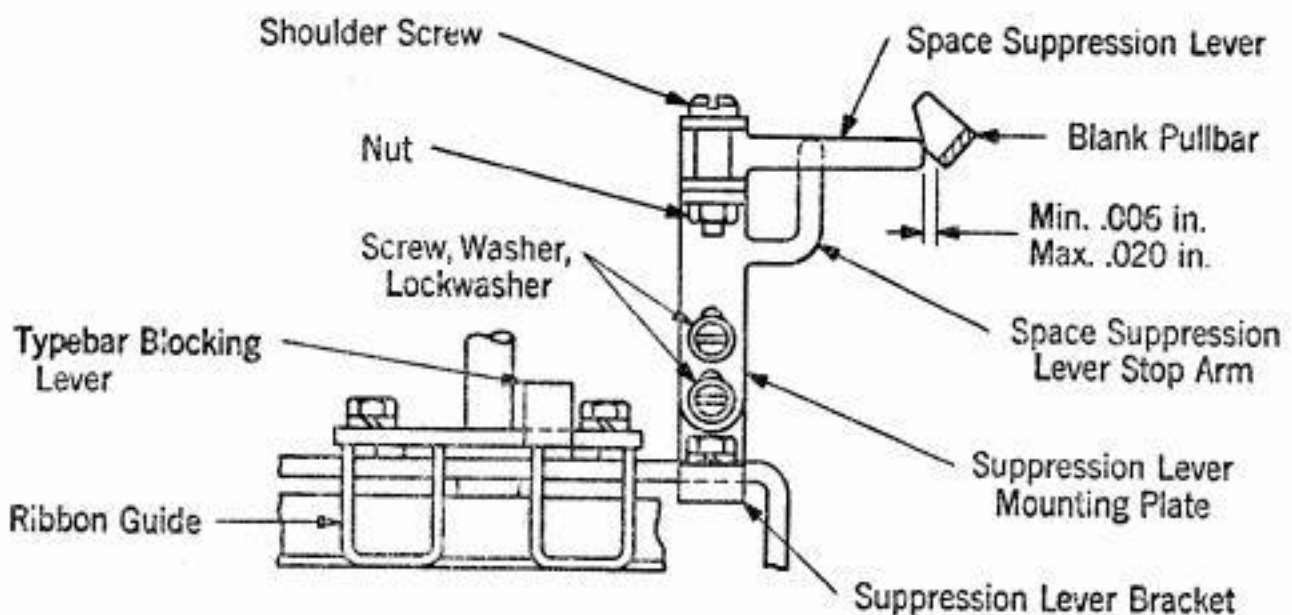

FIG. 3
2.05 Clearance between the end of space suppression lever and vertical edge of blank pull bar shall be Min. .006", Max. .020", when the motor has been rotated by hand until the pull bars are resting against code bars and with the carriage moved to a position where the space suppression lever is opposite the pull bar. See Fig. 3.